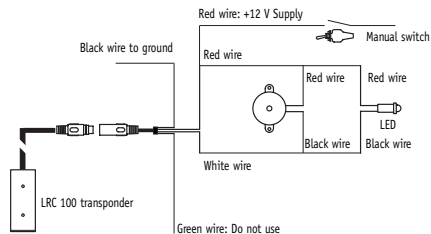

figure 4
4. Feed the cable of the transponder through the engine compartment. For this, make as much use as possible of the existing cable guides. Do not pull the cable too tightly and ensure that there are no sharp kinks in the cable. Feed the cable through an existing grommet to the interior of the vehicle. Make all connections as shown in figure 4.